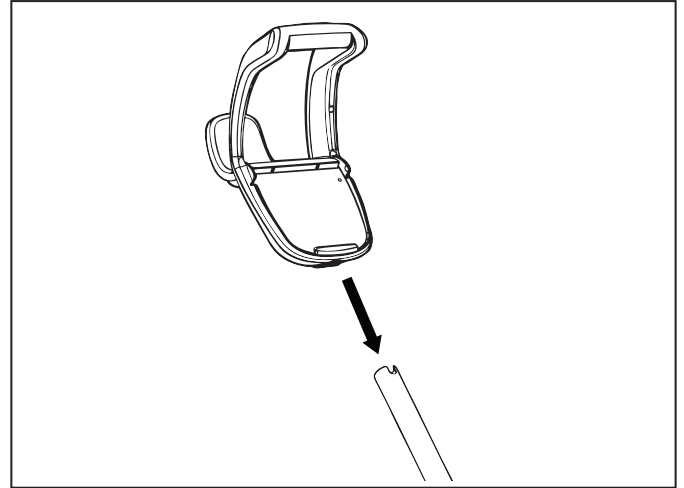

Figure 6. Attach Caddy Handle
7. Slide the Control Unit base / caddy handle attachment down over the metal tubing until it snaps into place. (See Figure 6).